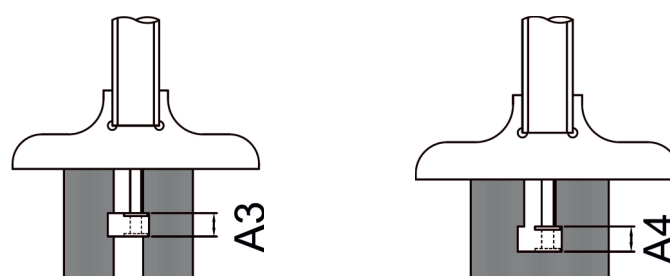

Fig. 3
- » For a disc-shaped contact point measuring the width of grooves inside a hole, gently pull the millimeter scale so the inner measuring surface of the contact point touches the top surface of the groove. Set the zero value by holding the “SET” button. Then place the outer measuring surface of the contact point on the bottom surface of the groove and measure depths A3 and A4 (Fig. 3). The thickness of the disc-shaped contact point is  $x$ , and the values of A3 and A4 equal the readings plus  $x$ .